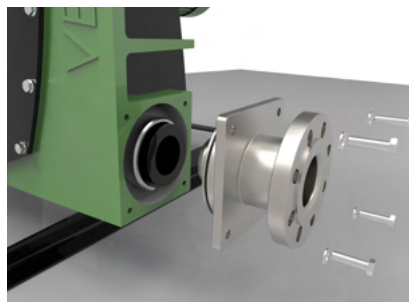

Figure 16e
6. Install the 4 bolts. (Figure 16e)